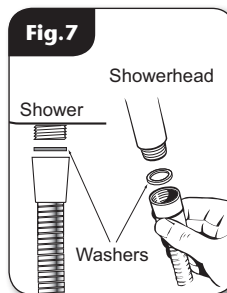

Fig.7
- Screw the flexible hose to the shower outlet and showerhead, making sure the supplied washers are in place at both ends of the flexible hose (**fig.7**).